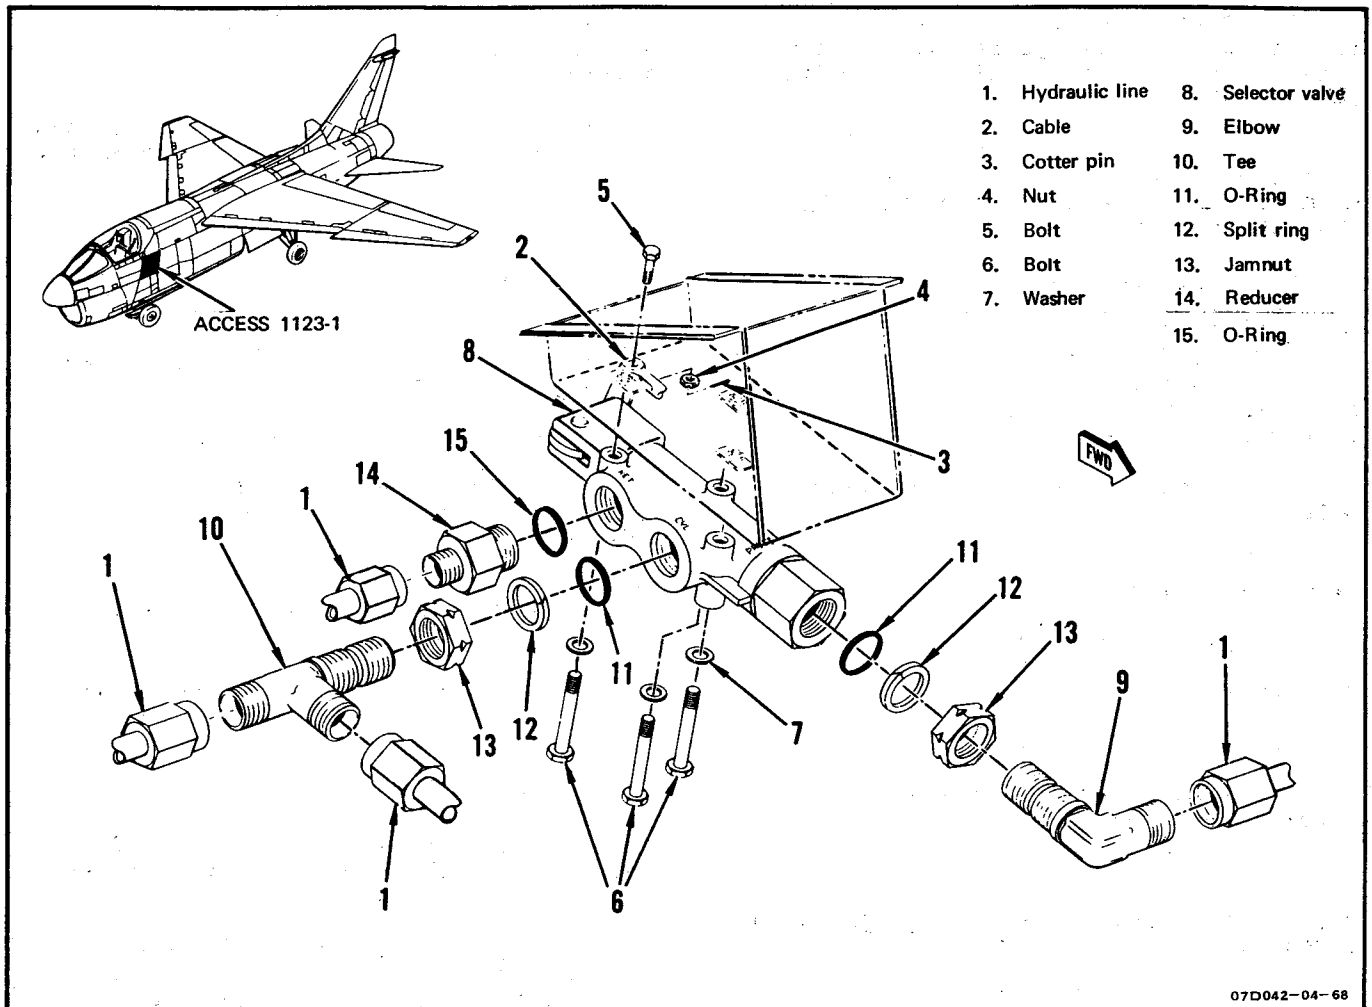

Figure 3-5. Emergency Landing Gear Selector Valve Removal and Installation
**3-20. REMOVAL. (See figure 3-5.)**
d. Disconnect four hydraulic lines (1) from selector valve. Cap lines.
e. Disconnect cable (2) from selector valve arm by removing cotter pin (3), nut (4), and bolt (5).
f. Remove bolts (6) and washers (7) securing selector valve to airplane. Remove selector valve (8) from airplane.
### 3-21. INSTALLATION. (See figure 3-5.)